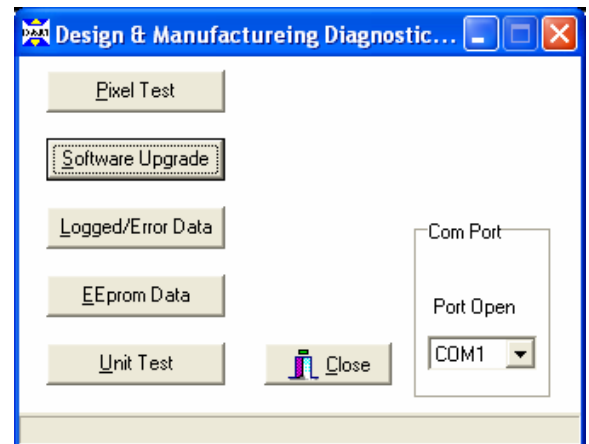

Figure 5
2. Pick the Software Upgrade Button (figure 5).
6. Pick the Eeprom Data Button (figure 5).